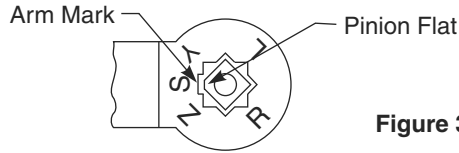

Figure 3
**Step 5:** Install main arm onto pinion shaft of unit at a 90° angle to the door frame. Align arm mark "S" with the flat corner of the pinion shaft square. (See Fig. 3 below.)